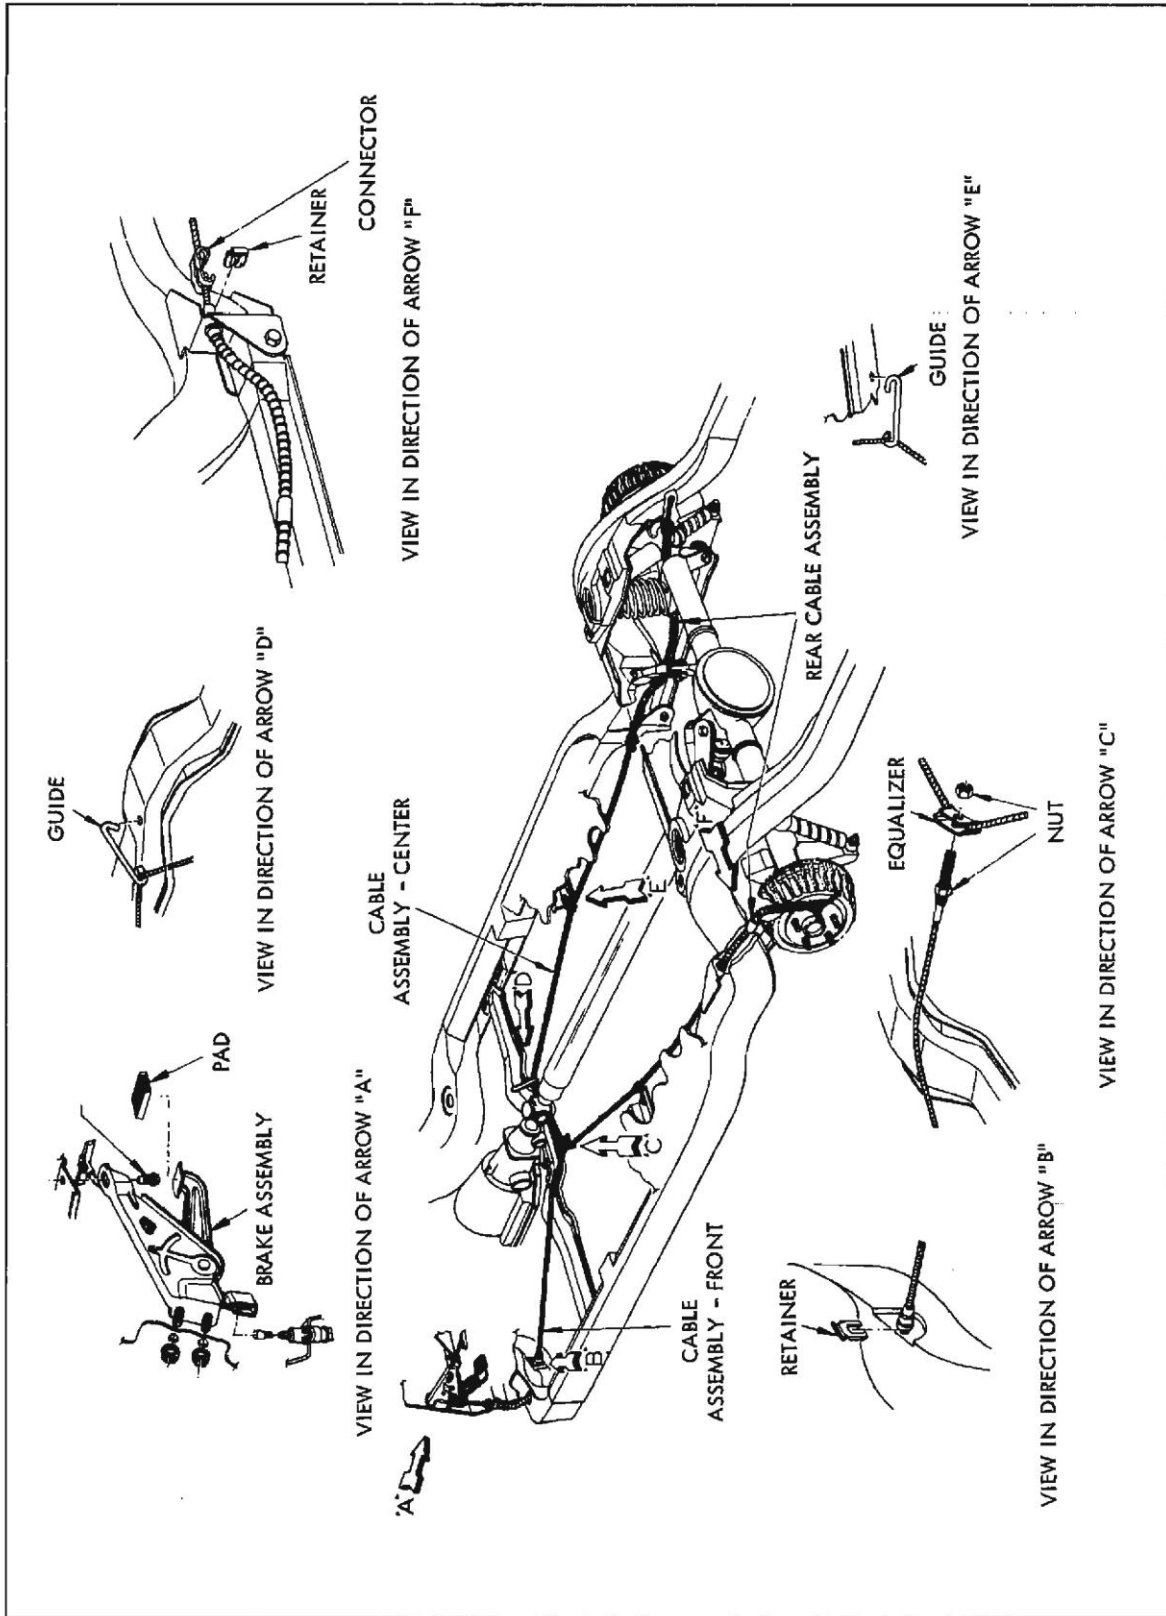

Fig. 5-2 Schematic Diagram of Parking Brake System
The parking brake lever (Fig. 5-2) operates the rear brakes through a system of cables. This brake is foot-operated and the actuating lever is mounted under the left side of the instrument panel.
3. If equalization requires more than a few notches' movement, retighten adjusting screw to point for proper adjustment of that brake and equalize rear cable by loosening the cable clamp screws at the equalizer clevis, and pulling downward on the tight side of the cable. It may be necessary to open the clamp with a screwdriver to allow the cable to equalize (Fig. 5-2).
5. Close adjustment for tension may be secured by adjusting the clevis at the rear end of the front cable. In adjusting here, be certain to turn clevis on or off cable end and do not twist the cable (Fig. 5-2).